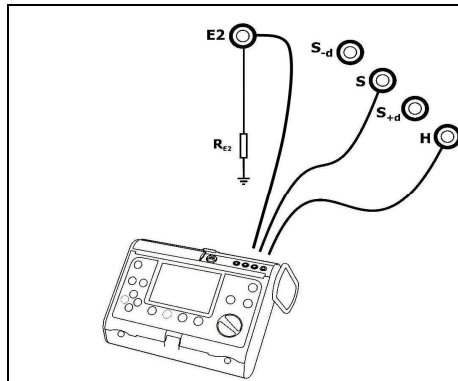

Figure 9. Connection of the meter.
- connect the earth resistance meter (MRU-XXX) to the sockets in accordance with Figure 9,